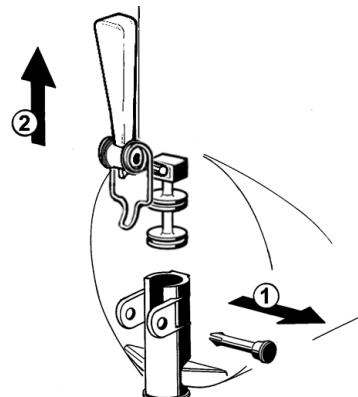

figure 9
- 5** Dismantle the faucet assembly (see figure 9).
3 Assemble the faucet by reversing the disassembly steps (see figure 9)